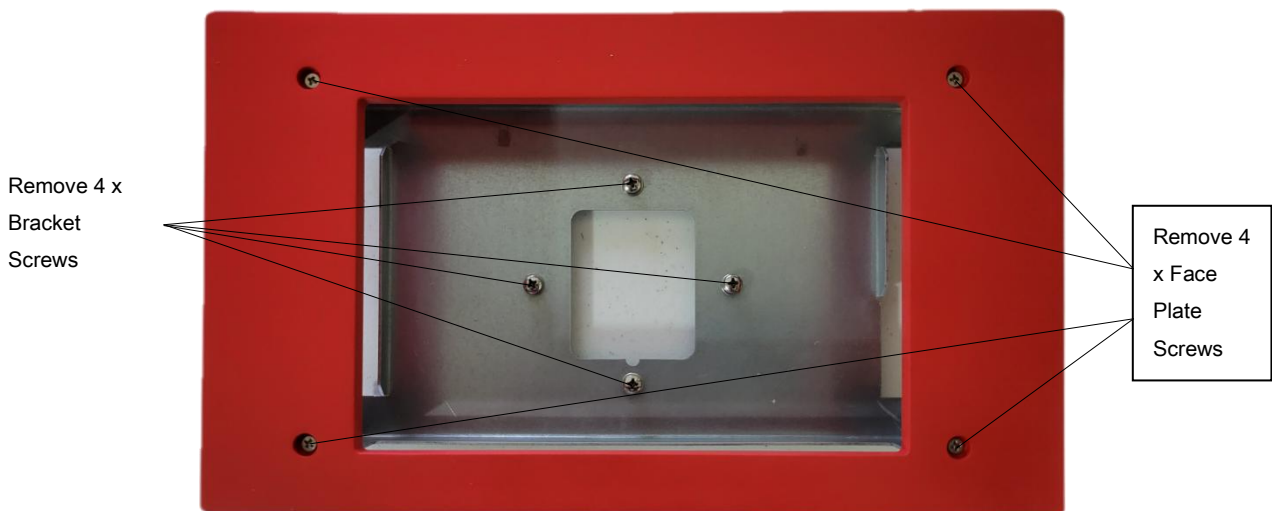

Figure 80: APV3-DAS - Flush Mount Kit Face Plate and Bracket Screw Removal
Follow the below instructions and see Figures 80 through 84, to flush mount the APV3-DAS:
- Remove the (4) Philips head screws holding the faceplate to the mounting bracket. Do not discard screws as these will be used to reinstall the face plate. Remove the face plate.
- Remove the (4) screws that are attached to the mounting bracket from the factory. These screws will be used in the next step to attach the APV3-DAS standard mounting bracket to the flush mount bracket. See Figure 80 below.